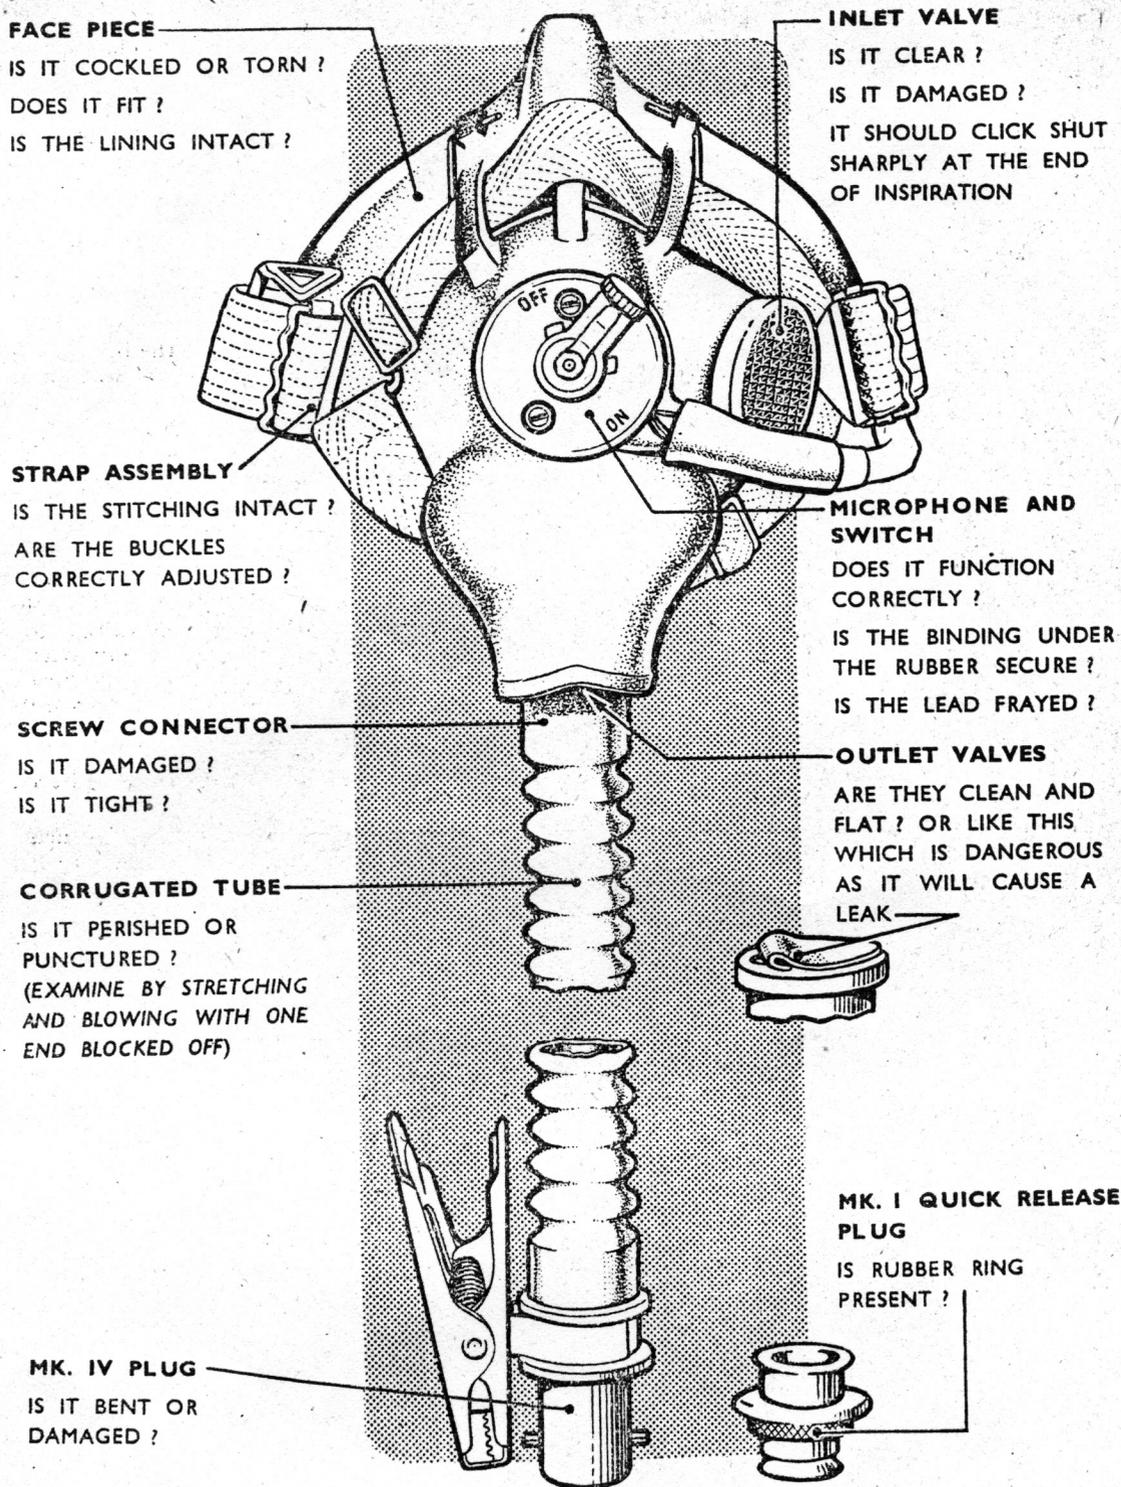

Fig. 8.—Inspection of the mask
13. Inspection is best carried out methodically, starting with the union for attachment to the aircraft supply and ending with the face-piece. Fig. 8 shows the method and points to look for.